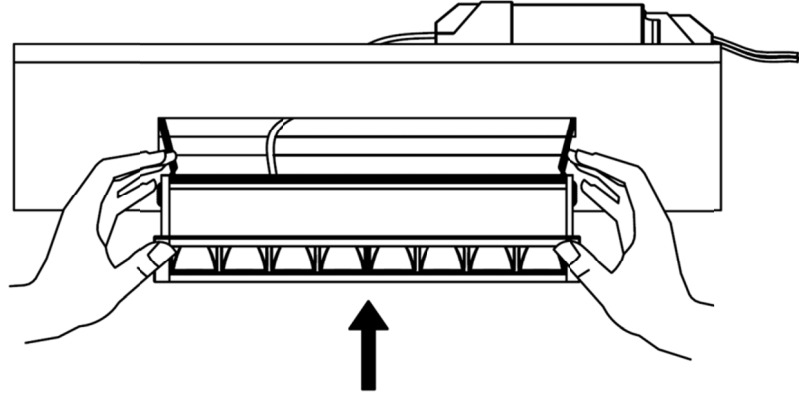

Figure4
4. After connecting the wires, first insert the driver or junction box into the interior of the ceiling through the ceiling opening; Then twist the springs at both ends by hand and install the lamp into the ceiling opening. (Figure 4)